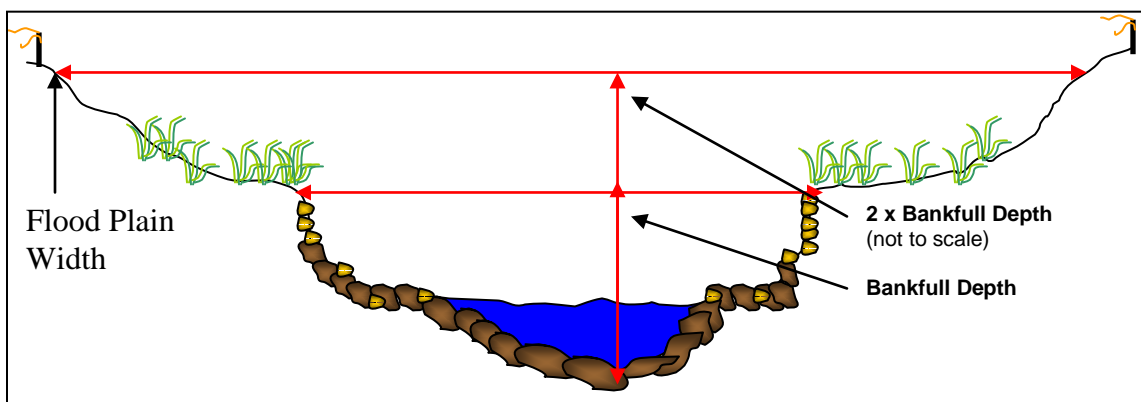

Figure 8 – Locating floodplain width
- The width of the floodplain is measured at a height above the thalweg equal to 2 times the bankfull depth (Figure 8).